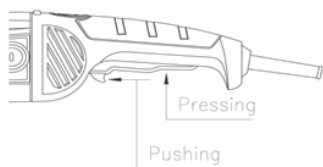

Figure 7
- 2) Start the tool by pushing forward on the switch, then pressing the trigger of switch down slightly. (figure 7)